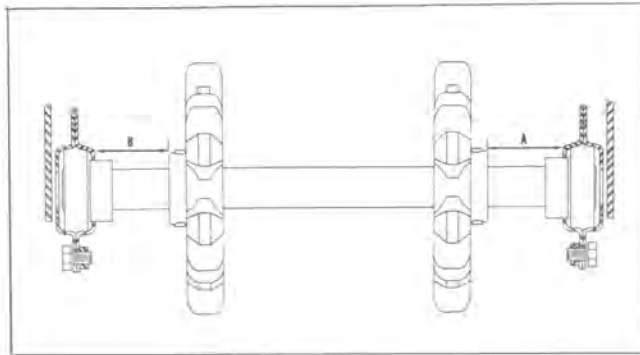

Figure 4
4. Center the rear axle by measuring and equalizing the distances "A" and "B" between the sprockets and the flange bearing retainer on the left and right sides of the vehicle. (See Figure 4).